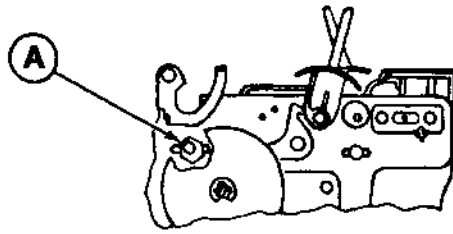

Figure 5-25 PLATEN HEIGHT ECCENTRICS
- Refer to Figures 5-25 and 5-26, and to subsection 5.4.2.2.
- # Command the printout of a full line of H's. Inspect the printout against the examples in subsection 5.4.2.2. Use 1/4" and 7/16" wrenches to adjust the platen height eccentrics (A), one end at a time, to achieve an even printout top to bottom on each character. Print a full line of H's after each adjustment to check results.